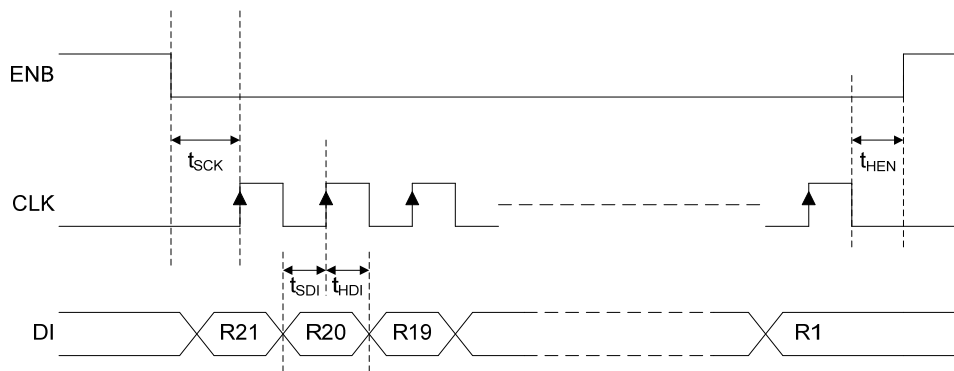

FIGURE 12: TIMING DIAGRAM FOR PROGRAMMING THE INTERNAL REGISTERS OF THE QLx4600-SL30
Pins 16 (DI), 45 (ENB), and 46 (CLK) are used to program the registers inside the QLx4600-SL30. Figure 12 shows an exemplary timing diagram for the signals on these pins. The serial bus can be used to program a single QLx4600-SL30 according to the following steps:
The DO pin (pin 17) can be used to daisy-chain the serial bus among multiple QLx4600-SL30 chips. The DO pin outputs the overflow data from the DI pin. Specifically, as data is pipelined into a QLx4600-SL30, it proceeds according to the following flow. First, a bit goes into shadow register 1. Then, with each clock cycle, it shifts over into subsequent higher numbered registers. After shifting into register 21, it is output on the DO pin on the same clock cycle. Thus, the DO signal is equal to the DI signal, but delayed by 20 clock cycles. The timing diagram for the DO pin is shown in Figure 12 where the first 20 bits output from the DO are indefinite and subsequent bits are the data fed into the DI pin. The delay between the rising clock edge and the data transition is t_{cQ} .